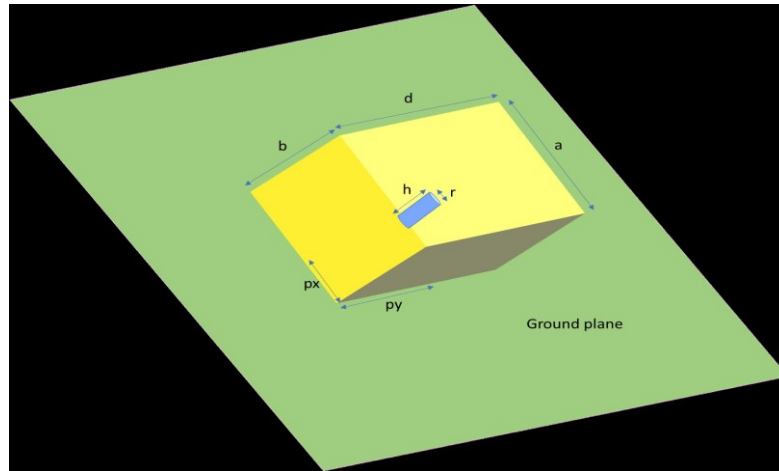

Figure 1 The figure of DRA
Figure 1 shows the DRA. Yellow part is the dielectric resonator where the blue cylinder is the feed (feed is the extension of the inner conductor of the coaxial connector). a , b and d represent the dimensions of the dielectric resonator, h represents the height of the probe and r represents the radius of the probe. px and py show the position of the probe by reference to the edge of the resonator. The equations below are to calculate the dimensions of the DRA (a , b and d).
- “a” is longer than “d” (In Figure 1, “a” seems smaller than “d”. It is only to show the dimensions. “a” is larger than “d” in our antenna.).